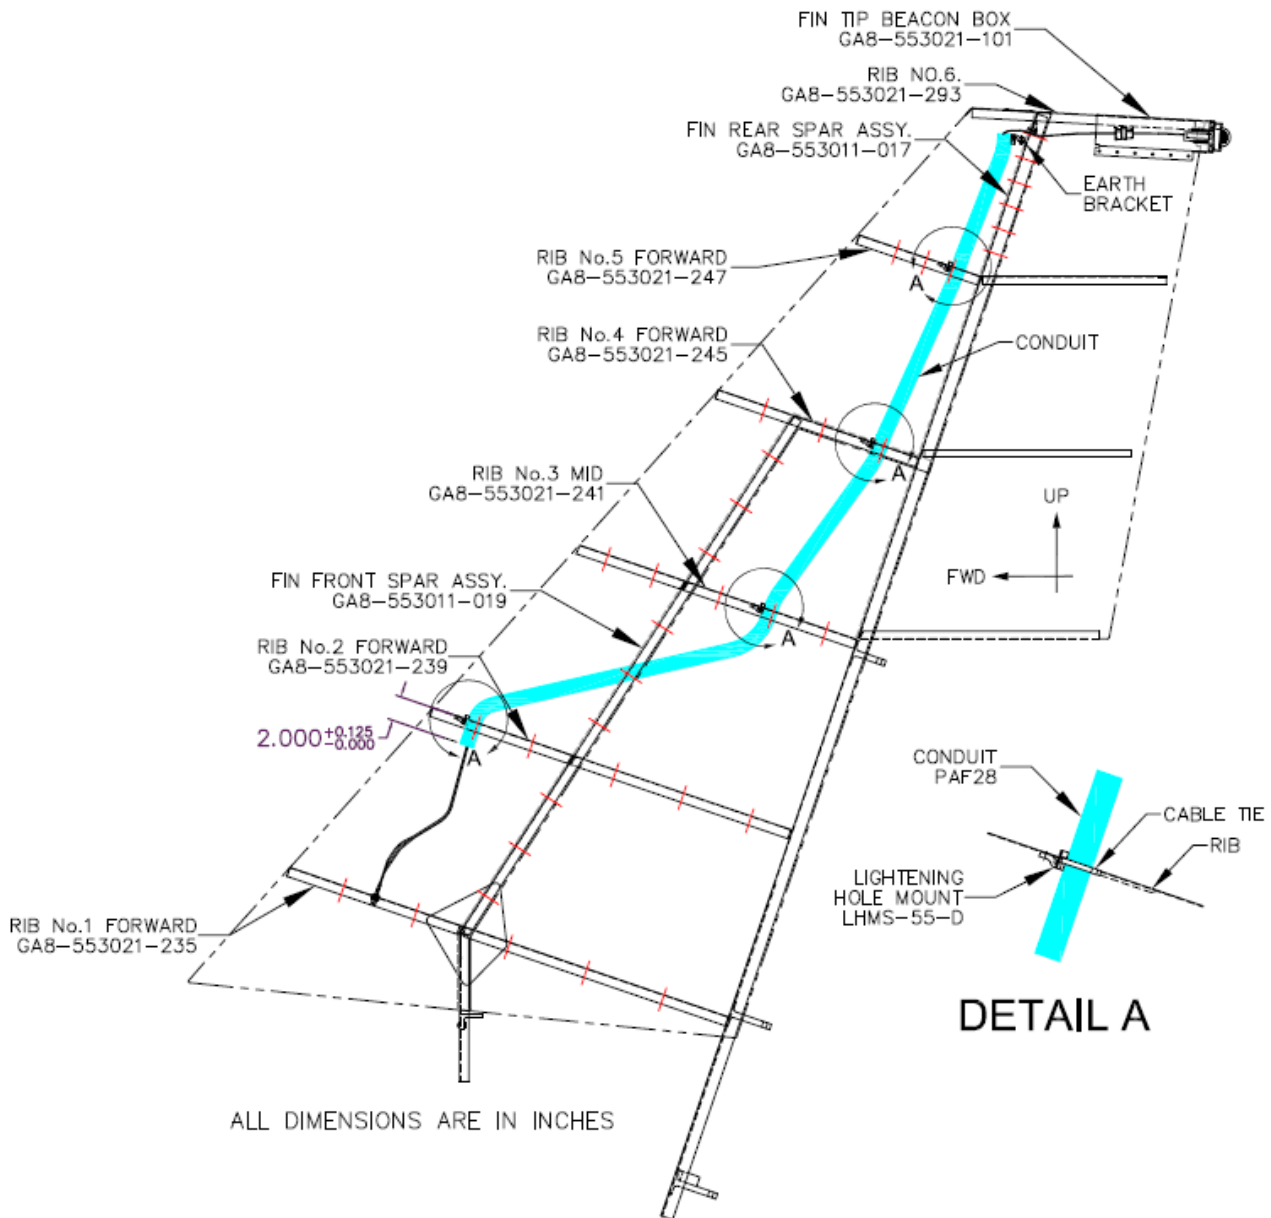

Figure 6 : Fin wire routing
- 34. Remove and retain Rib No.6 (GA8-553021-293) at top of the Vertical Fin (refer Figure 6).
- 35. Modify the Fin by enlarging the original strobe light cut-out. Remove the material in the hatched region shown in Figure 6. Note that all dimensions are in inches, tolerances are ± 0.032 " and sharp corners should be suitably radiused. Trim Rib No.6 to suit cutout.
36. Install the Electrical Harness (Item 18) through the conduit (Item 34). Pass the conduit through the Fin as shown in Figure 6. Note that the red lines indicate the axis of lightning holes inherent in the respective components. Mounts at ribs 3 & 4 may be omitted if they are inaccessible.
37. For each of the locations identified by Detail A in Figure 6, the Lightning Hole Mounts (Item 27) are to be fastened to the identified rib components using a pop rivet (Item 38) (drill Ø4.1mm hole).
39. Fasten the conduit to the Lightning Hole Mounts as per Figure 6. Note that the lower end of the conduit should extend 2.000" (+0.125", -0.000") below the upper surface of Rib No.2 Forward (GA8-553021-239) component.